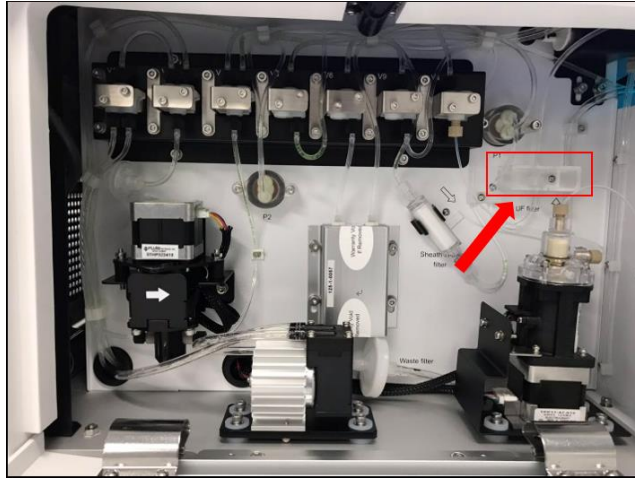

Figure 102. Location of the 0.05 µm Sheath Fluid Ultrafiltration (UF) Filter rack
- 3 Locate the 0.05 µm Sheath Fluid Ultrafiltration (UF) Filter rack (Figure 102). Disconnect the tubing located inside the rack by unscrewing the Luer connectors if first time installation or remove the existing filter by unscrewing the Luer connectors at two ends of the filter if this filter is already installed.